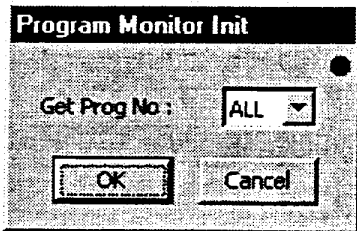

Figure 7.34 "Program Monitor Init" dialog box
Click *"Monitor (M)"* in the "Program Manager" dialog box to display the "Program Monitor Init" dialog box (see Figure 7.34).